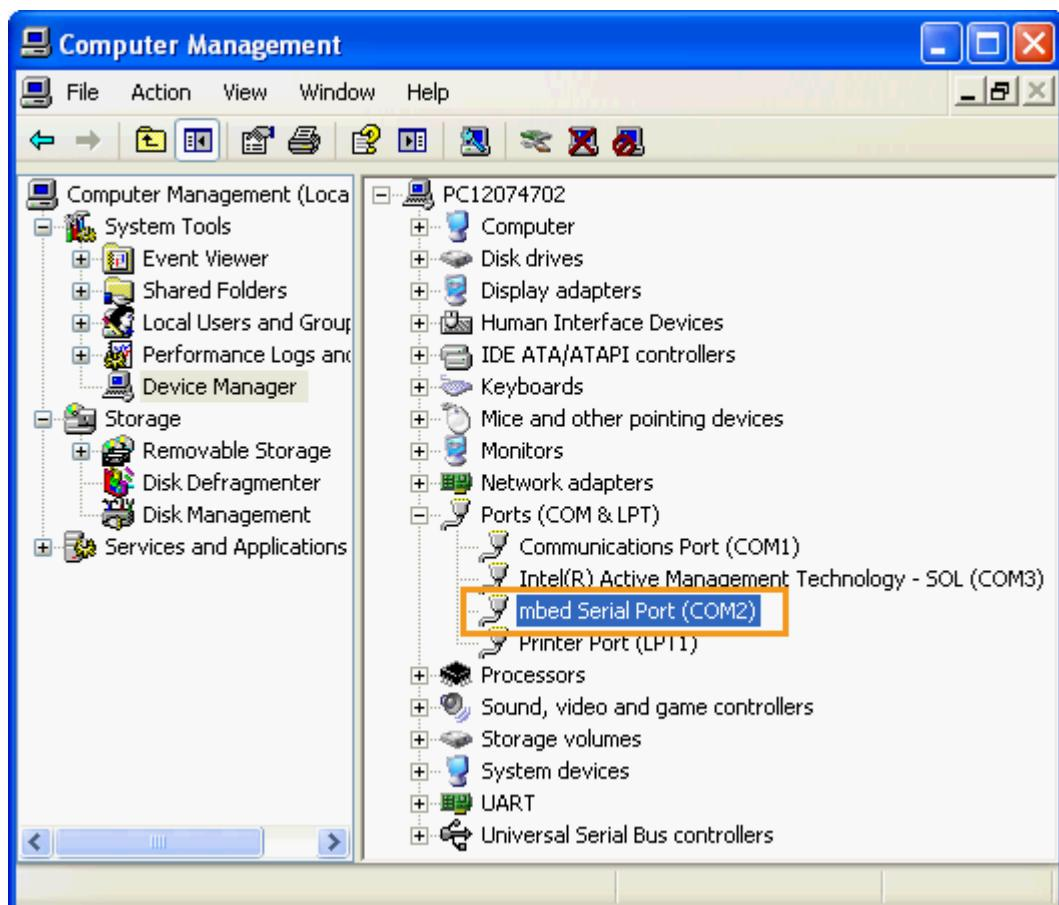

Figure 19. mbed serial port
- 51) In **Device Manager**, navigate to **Ports (COM & LPT)** (see Figure 19).